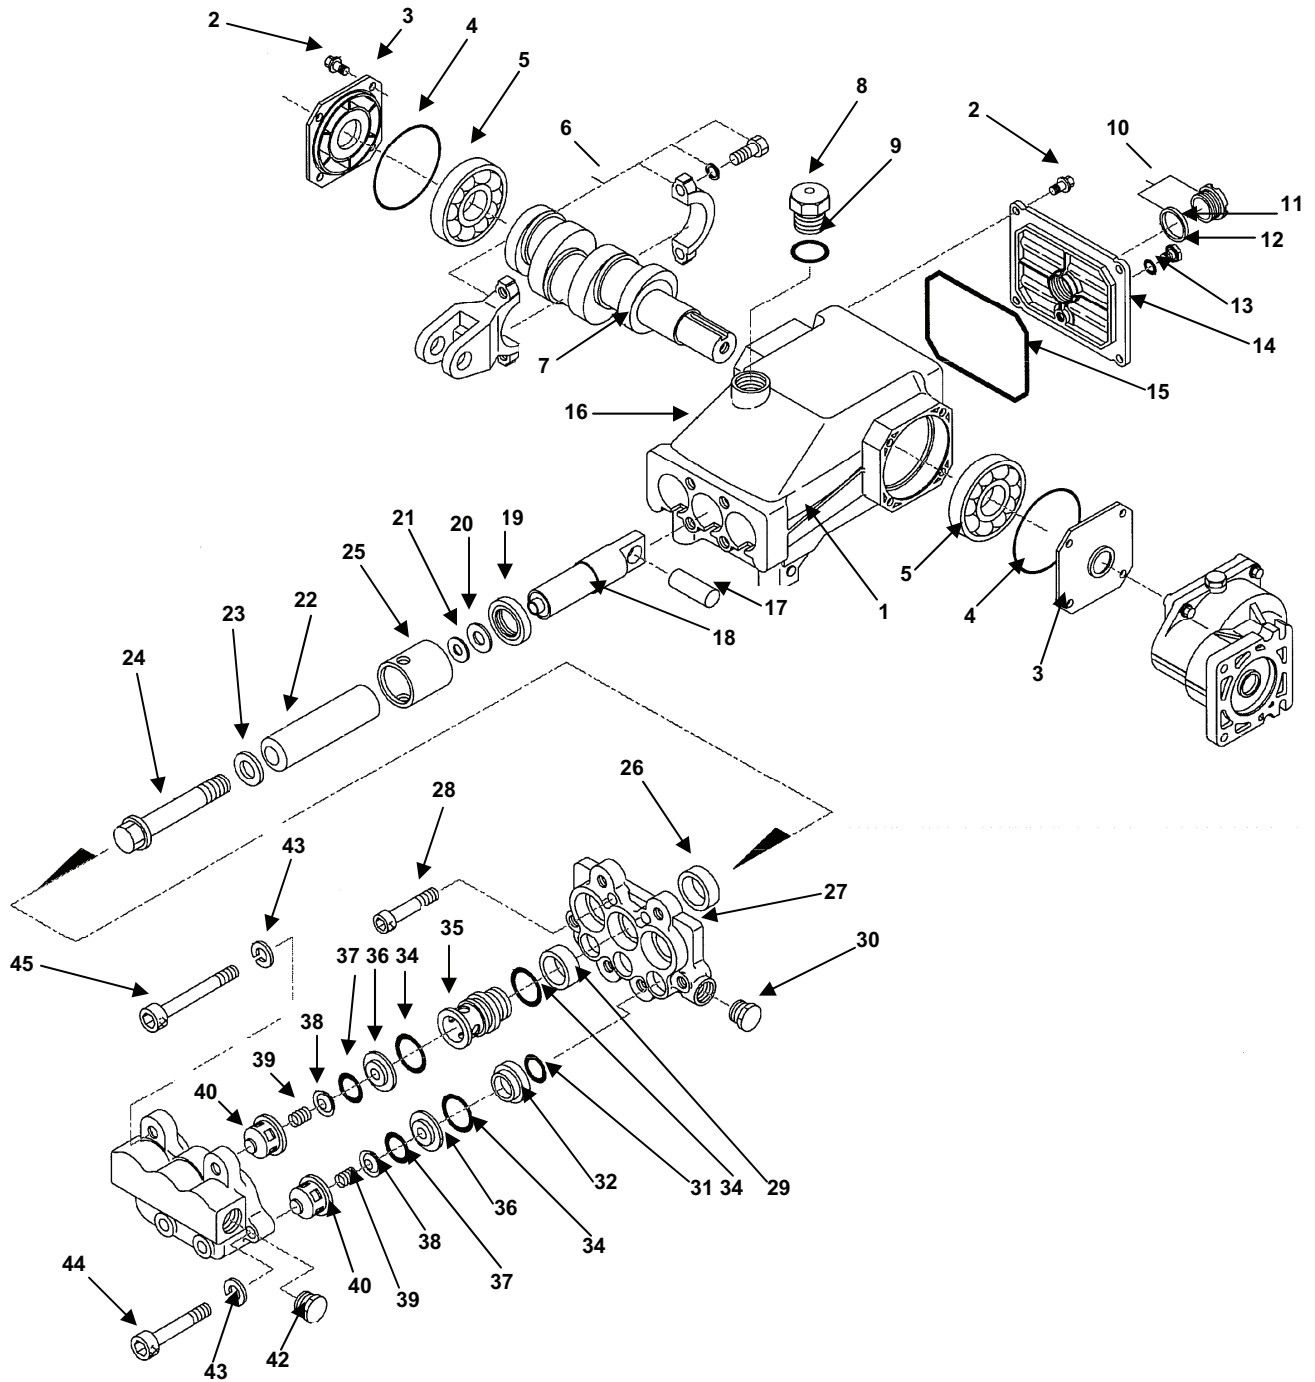

Figure 2. High-Pressure Plunger Pump (Exploded View).
3. Tap the backside of the discharge manifold with a rubber or leather mallet to gradually separate from the inlet manifold (Figure 2, item 27).
4. Carefully place discharge manifold (Figure 2, item 41) on work surface with the crankcase (Figure 2, item 16) up.
5. Remove three inlet valve adapters (Figure 2, item 32) with inner (Figure 2, item 31) and outer (Figure 2, item 34) O-rings from the three small diameter and shallow inlet chambers in the discharge manifold (Figure 2, item 41).
6. Remove seat (Figure 2, item 36), O-ring (Figure 2, item 37), valve (Figure 2, item 38), spring (Figure 2, item 39), and spring retainer (Figure 2, item 40) from each inlet valve chamber in the discharge manifold (Figure 2, item 41). Place removed parts in parts tray. Account for all parts.
7. Remove three discharge valve adapters (Figure 2, item 35) with two inner and outer O-rings (Figure 2, item 34) from the three large diameter and deeper discharge valve chambers in the discharge manifold (Figure 2, item 41).
8. Seals (Figure 2, item 29) generally remain with the inlet manifold (Figure 2, item 27) as it is removed.
9. If seals (Figure 2, item 29) remain in inlet manifold (Figure 2, item 27), insert two screwdrivers under the lip of the seals. Pry the seals from the inlet valve chamber if necessary.
10. Remove seat (Figure 2, item 36), O-ring (Figure 2, item 37), valve (Figure 2, item 38), spring (Figure 2, item 39), and spring retainer (Figure 2, item 40) from each discharge valve chamber in discharge manifold (Figure 2, item 185).
1. Examine spring retainers (Figure 2, item 40) for internal wear or breaks in the structure. Replace as needed.
2. Examine springs (Figure 2, item 39) for fatigue or breaks. Replace as needed.
3. Examine valves (Figure 2, item 38) for grooves, pitting, or wear. Replace as needed.
4. Position spring retainer (Figure 2, item 40) in each deep discharge valve chamber in discharge manifold (Figure 2, item 41). Push in until spring retainer rests on the machined ridge in each chamber.
5. Insert spring (Figure 2, item 39) into the spring retainer (Figure 2, item 40) over the plastic center guide.
6. Place valve (Figure 2, item 38) over spring (Figure 2, item 39) with concave side down.
7. Examine seat O-rings (Figure 2, item 34) for cuts or wear. Replace as needed.
8. Lubricate O-ring (Figure 2, item 34) with Glycerin. Insert into groove on outside of each seal (Figure 2, item 29).
9. Place O-ring (Figure 2, item 34) on lip of spring retainer (Figure 2, item 40).
10. Carefully square O-ring (Figure 2, item 34) in each valve chamber to avoid cutting O-ring when seat (Figure 2, item 36) is installed.
11. Examine seats (Figure 2, item 36) for grooves, pitting, or wear. Replace as needed.
12. Install seat (Figure 2, item 36) with concave side down in each discharge valve chamber. Make sure O-ring (Figure 2, item 34) fits snugly into each groove in seat.
13. Examine both inner and outer O-rings (Figure 2, item 34) on the discharge valve adapter (Figure 2, item 35) for cuts or wear. Replace as needed.
14. Carefully press discharge valve adapter (Figure 2, item 35) with small diameter side down into each upper valve chamber until discharge valve adapter snaps lightly into position.
4. Position spring retainer (Figure 2, item 40) in each shallow inlet valve chamber in discharge manifold (Figure 2, item 41). Push in until spring retainer rests on the machined ridge in each inlet chamber.
5. Place valve (Figure 2, item 38) over spring (Figure 2, item 39) with concave side down.
6. Examine seat O-rings (Figure 2, item 34) for cuts or wear. Replace as needed.
7. Place seat O-ring (Figure 2, item 34) on lip of spring retainer (Figure 2, item 40).
8. Carefully square seat O-ring (Figure 2, item 34) in each inlet valve chamber to avoid cutting when seat (Figure 2, item 36) is installed.
9. Examine seats (Figure 2, item 36) for grooves, pitting, or wear. Replace as needed.
10. Install seats (Figure 2, item 36) with concave side down in each inlet valve chamber. Make sure O-ring (Figure 2, item 34) fits snugly in groove in seat (Figure 2, item 36).
11. Examine both inner (Figure 2, item 31) and outer (Figure 2, item 34) O-rings on the inlet valve adapter (Figure 2, item 32) for cuts and wear. Replace as needed.